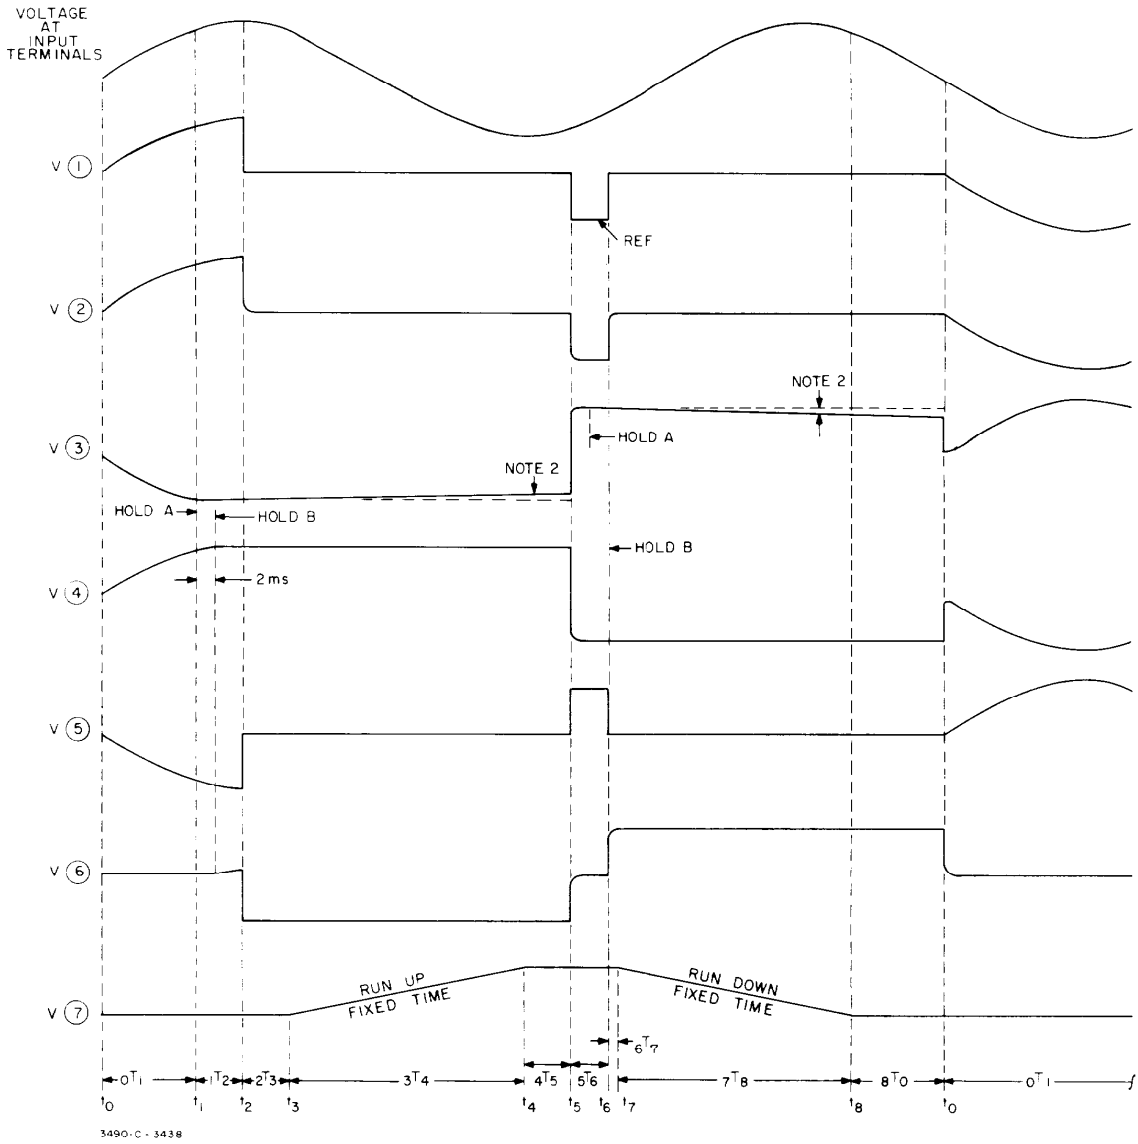

Figure 4-31. Sample/Hold Simplified Diagram And Measurement Sequence.
4-219. Figure 4-31 shows a simplified diagram of the Sample/Hold circuits and describes the measurement sequence. Sample/Hold Circuit A can respond quickly to a change in voltage at point 2. However, this circuit cannot hold a fixed level long enough for a complete measurement. Sample/Hold Circuit B cannot respond as quickly as A, but can hold a fixed level long enough for a complete measurement. In a Sample/Hold measurement, the voltage is sampled by Circuit A, then held by A until Circuit B has time to respond. Then the voltage is held by B while the measurement is completed.
4-220. Waveforms shown in Figure 4-31 illustrate the measurement sequence for a single measurement on a sine wave, and the accompanying notations indicate the events occurring during the measurement sequence. In Sample/Hold measurements, the circuits must be in the Track Mode from the completion of one measurement until the receipt of the next Sample/Hold Trigger command. For this reason, the DC Input Amplifier is connected to the input terminals during this entire period, and the normal auto-zero cycle of this amplifier cannot be used. Consequently, there is a slight offset voltage present in its output. This offset is removed from the Sample/Hold measurement voltage as follows:
a. The voltage at point 6 (refer to the diagram and waveforms in Figure 4-31) during the run-up period, $3T_4$, is the algebraic sum of the voltages at points 4 and 5. The voltage at point 4 is the sum of the input signal
Offset Amplifier output) and applies this voltage to the Integrator (A - to - D Conversion) circuit through K1, as shown in Figure 4-31. If Sample/Hold operation is not selected, the DC Input Amplifier output signal by-passes the Sample/Hold circuits through K2.